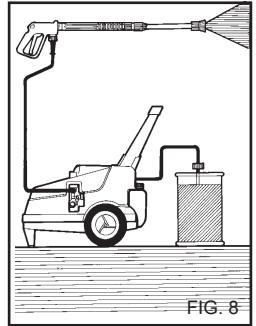

FIG. 8
- 1) After using with detergent, flush out the intake circuit; place the detergent suction hose (fig. 8) in a tank of clean water and let the pump run for 1 minute with the dosing tap turned fully on and the lance in detergent delivery condition.
- 4) After using with detergent, flush out the intake circuit; place the detergent suction hose (fig. 8) in a tank of clean water and let the pump run for 1 minute with the dosing tap turned fully on and the lance in detergent delivery condition.